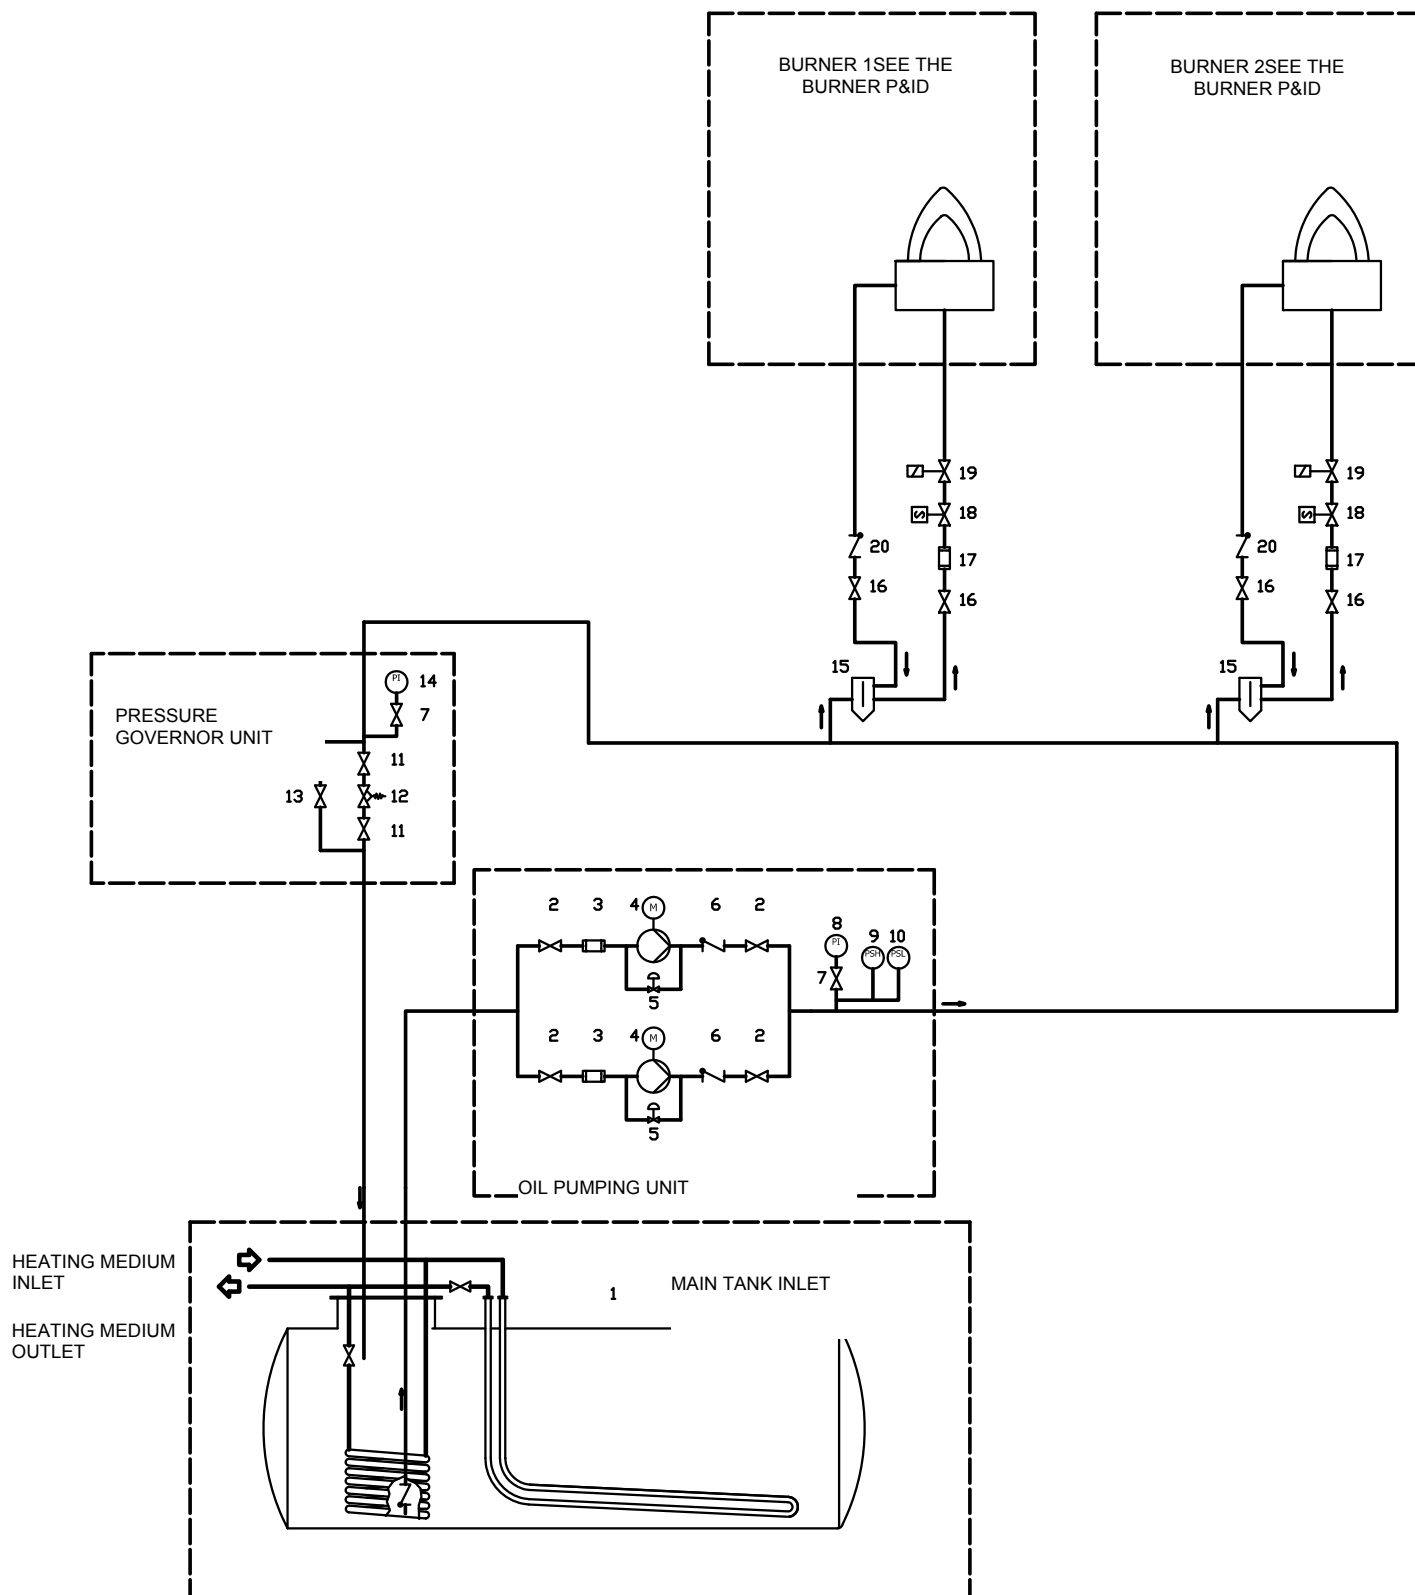

Fig. 15 - 3ID0077 v1 - Ring circuit
**NOTE:** in plants where gravity or ring feed systems are provided, install an automatic interception device (see n. 18 - Fig. 15).